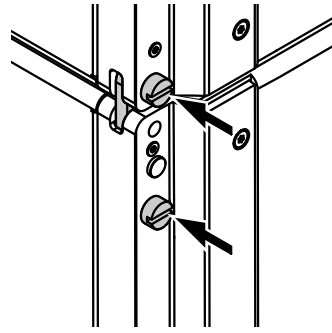

Fig. 3: SUB to SUB, 2° splay, free
3. SUB to SUB with 2° splay (free) between the cabinets (⇒ Fig. 3).